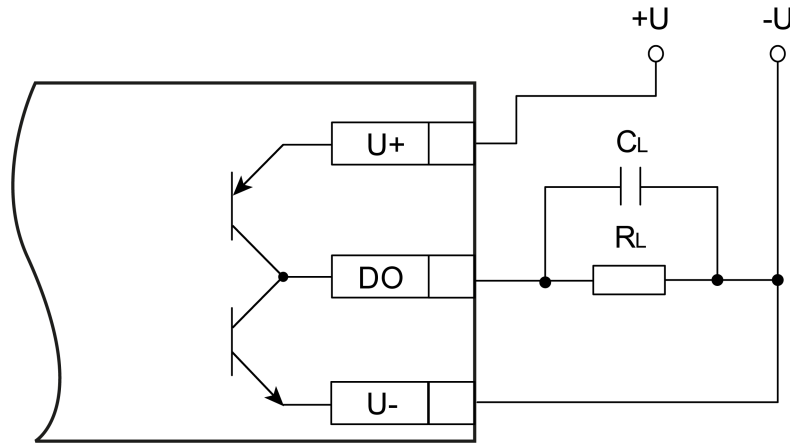

Fig. 4.3 Output wiring in push-pull switching mode
- push-pull switch (Fig. 4.3) — for switching loads with larger capacitance and lower current (less than 100 mA)